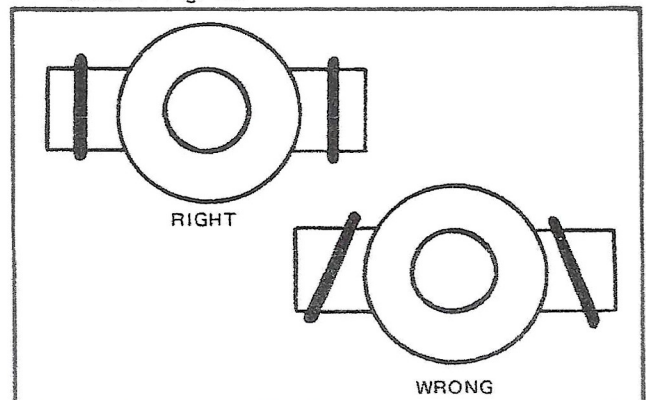

Fig. 19 - Article 90
- B. The spring used to retain the clutch release lever fork to the release bearing hub may, if not properly aligned, abut the hub carrier flange and inhibit rearward motion. Whenever a transmission is removed, check that the spring ends are parallel and not inclined inward as shown in Fig. 19.